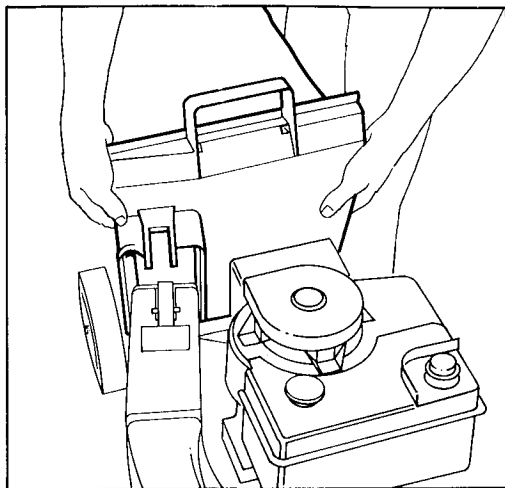

Figure 9
3. **INSTALL BAG** (Fig. 9) — Set rear of bag frame onto lower handle crossbar. Hold front of bag frame and bag door together. Then place opening in bag door against flanges on rear chute and slide bag door down.